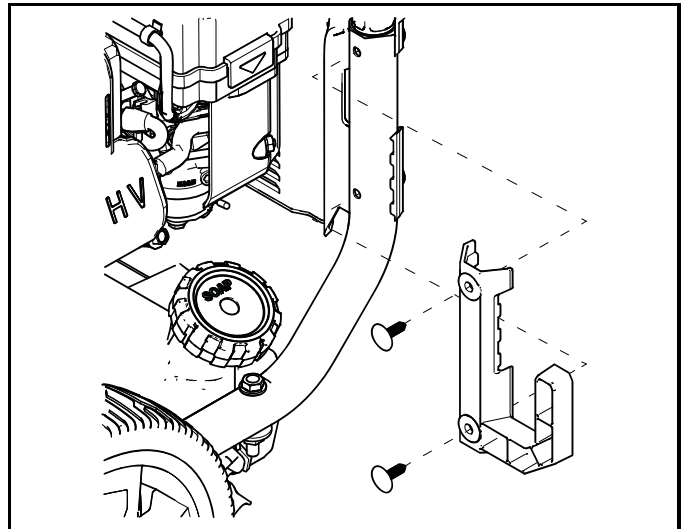

Figure 4-2. Attach Lance Hook to Unit
2. Install lance hook to unit frame using (2) supplied tree clips. Align holes and push the tree clips into holes until they sit flush with gun hook (Figure 4-2).